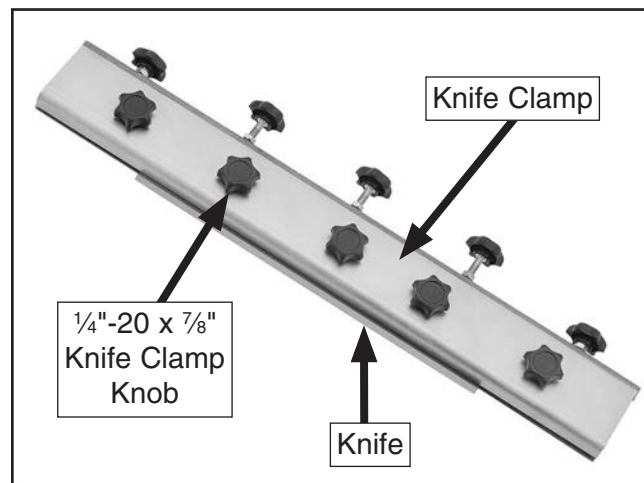

Figure 21. Knife clamped to the slide bar.
8. When you are satisfied that the knife extends beyond the slide bar the same amount along its length and that the supporting adjustment knobs are all making even contact with the back of the knife, re-tighten the jam nuts and attach the knife clamp to the slide bar with (5) $\frac{1}{4}$ "-20 x $\frac{7}{8}$ " knife clamp knobs, as shown in **Figure 21**.